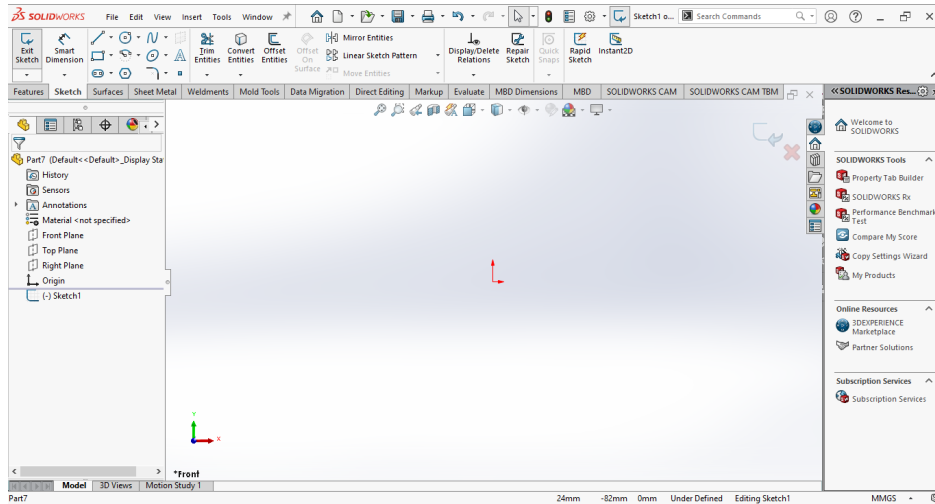

Figure 2-60 Screen display in the sketching environment
5. Select the **Front Plane** from the drawing area; the sketching environment is invoked and the plane gets oriented normal to the view. You will notice that red colored arrows are displayed at the center of the screen indicating that you are in the sketching environment. Also, the confirmation corner with the **Exit Sketch** and **Cancel** options is displayed on the upper right corner in the graphics area. The screen display in the sketching environment of **SOLIDWORKS 2021** is shown in Figure 2-60.